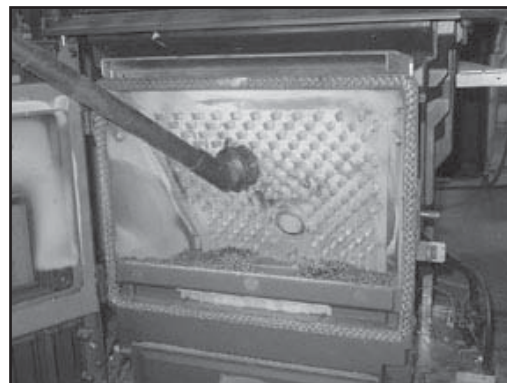

Figure 24.3
- b. Vacuum the ash from the heat exchanger with an upholstery brush to remove the majority of the ash. Be sure to vacuum the back of the baffle also. Inspect the drop tube and remove any residue build-up in the drop tube. **Figure 24.3.**